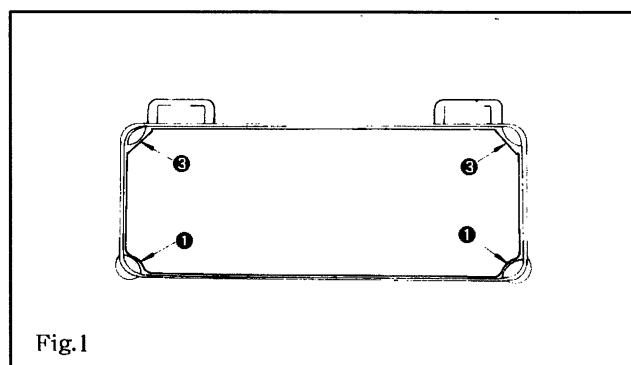
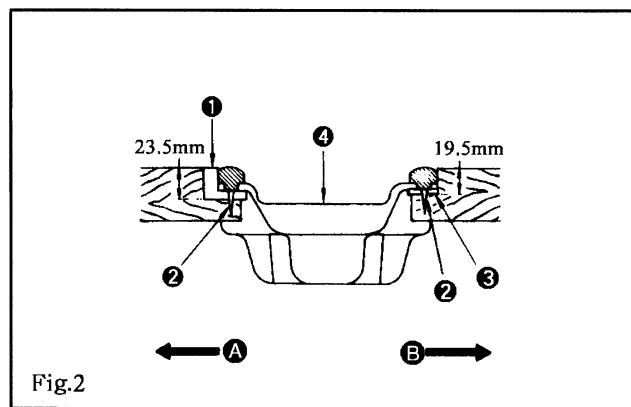

Fig.1
Fig.2
- 2) Fix two rubber seats ① on side A (operator's side) using nails ② as illustrated below. Fix two cushion seats ③ on side B (hinged side) using nails ②. Then place oil pan ④ on the fixed seats. (Fig.1, Fig.2)